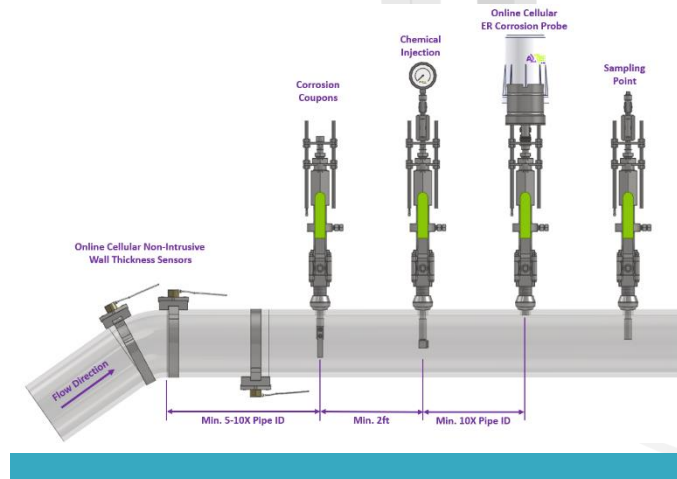

Figure 3: Complete flow line corrosion monitoring solution
- Data from the UT sensors was also compared with that from other sources such as coupon and ER probes to optimise the local inhibitor strategy, Figure 3.